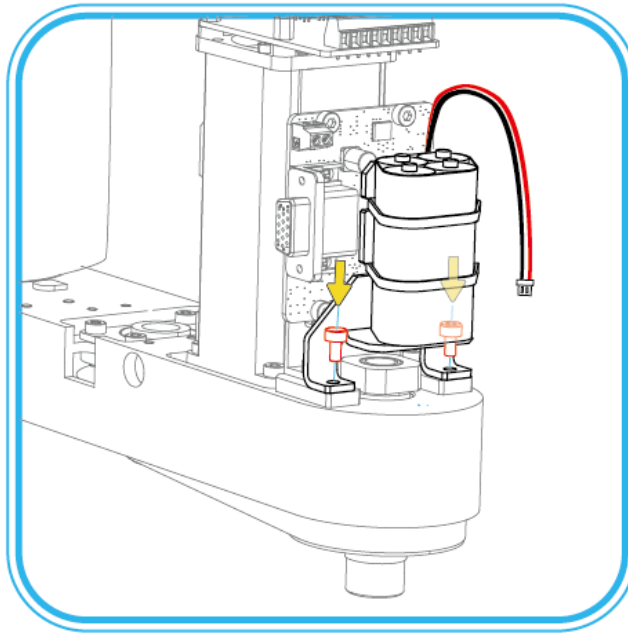

Figure 7.15 Fix the battery holder
8. Fix the battery holder to the adapter plate with two M3*6 hexagon socket head cap screws, as shown in Figure 7.15.